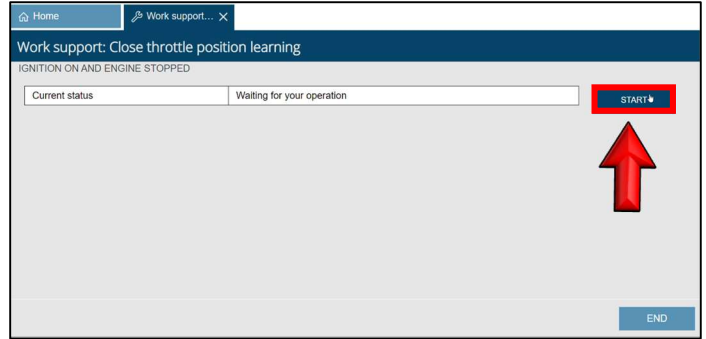

Figure 26
27. Select **Start** and wait until the "Completed" is displayed. (Figure 26)
- Turn the ignition OFF by pressing the push button ignition switch (1) one time